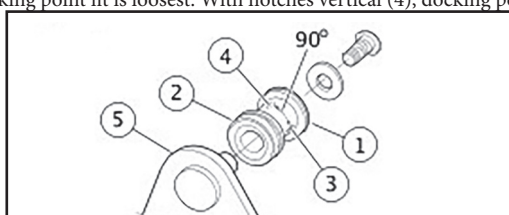

Figure 1. Docking Point Installation
7. Install the screws (6) into the docking plate pins. Rotate each docking point to position the notches horizontally (Figure 1, item 3). Tighten the screws until snug.
Apply 2 or 3 drops of Loctite 243 - Blue to the threads of each screw (6). Install screws. Rotate each docking point to position the insert notches horizontally (Figure 1, item 3). Tighten screws until snug.
See Figure 1. Rotate the docking points (1) slightly away from horizontal until a tight fit is achieved at each location.